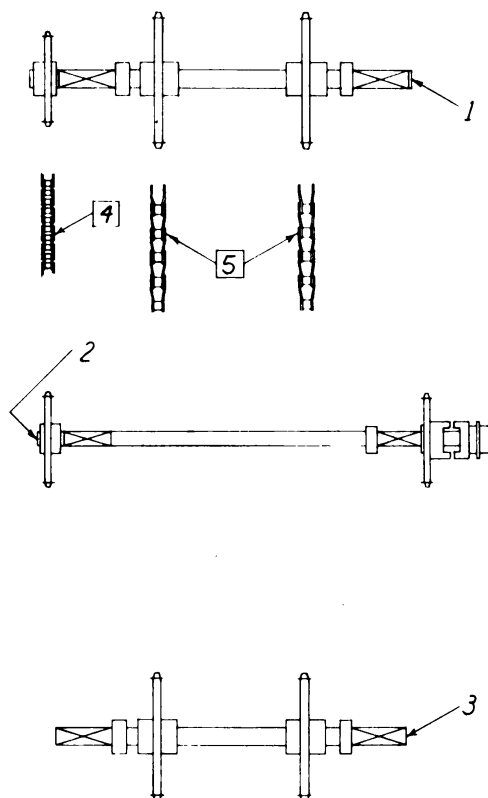

FIGURE 122
#### Head Shaft Drive Chain (No. 4, Fig. 122)
# ELEVATOR HEADSHAFT (No. 1, Fig. 122)
**ELEVATOR FOOTSHAFT (No. 3, Fig. 122)****How To Remove**
**ELEVATOR COUNTERSHAFT (No. 2, Fig. 122)****How To Remove**